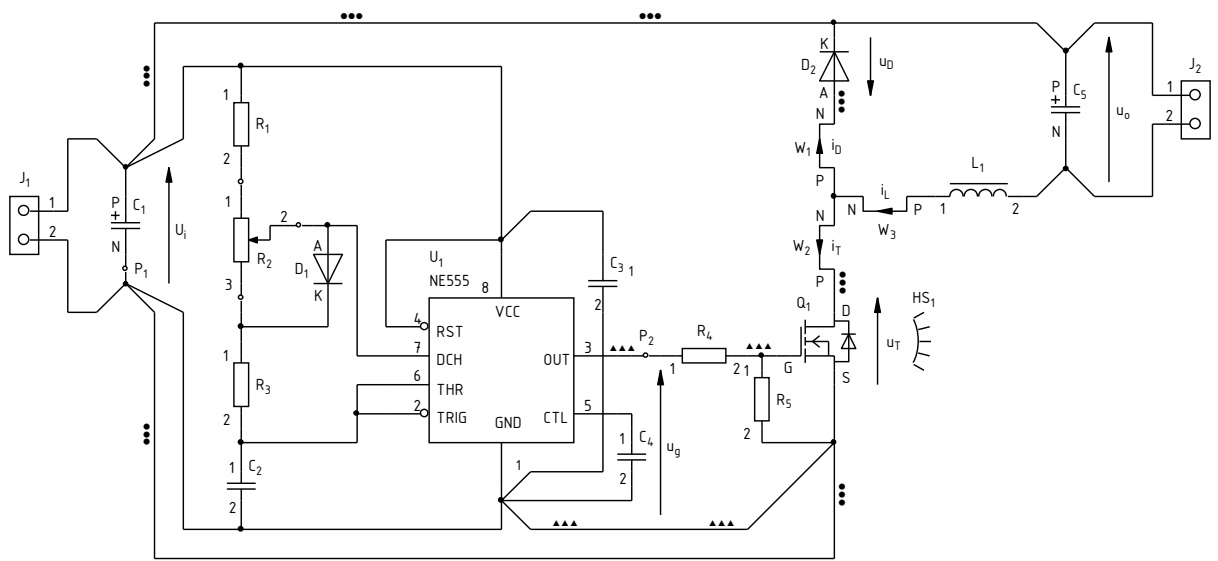

Fig. 1. Schematic diagram of the buck converter circuit under investigation
The schematic diagram of the non-isolated buck (step-down) converter has been presented in Fig. 1. Screw terminal blocks enable the connection of a **power supply** (terminal block J_1 , input voltage U_i) and of a **load** R_L (terminal block J_2 , output voltage u_o). It should be noted that the voltages U_i and u_o also appear across the capacitors C_1 and C_5 , respectively, that are polar components, which requires the correct polarity of the input voltage to be assured. To supply the circuit, any power supply with a current capability of at least 3 A, smoothly adjustable voltage and adjustable current limit can be used.
6. Attach the voltage probe or probes with a 1:10 attenuation, connected to the input or inputs of the oscilloscope, so as to measure the generator's output voltage u_g (measurement points P_1 and P_2), considering its direction according to Fig. 1:
9. Clamp the probe on the wire conducting the current of the inductor (presently shorted) i_L (wire W_3) so that the positive current direction as indicated by an arrow on the probe body is in accordance with the arrow in Fig. 1. A waveform of the current i_L should be displayed on the oscilloscope. Make sure that the sign of the current as measured is positive, which indicates that the probe has been oriented correctly.